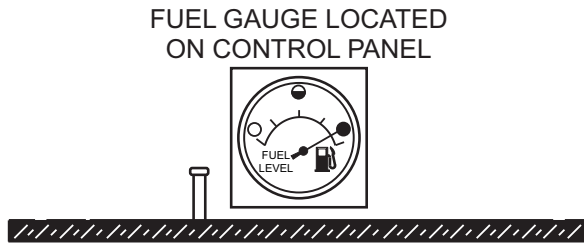

Figure 34. Full Fuel Tank
- NEVER overfill the fuel tank** — It is important to read the fuel gauge when filling the fuel tank. **DO NOT** wait for fuel to rise in the filler neck (Figure 34).